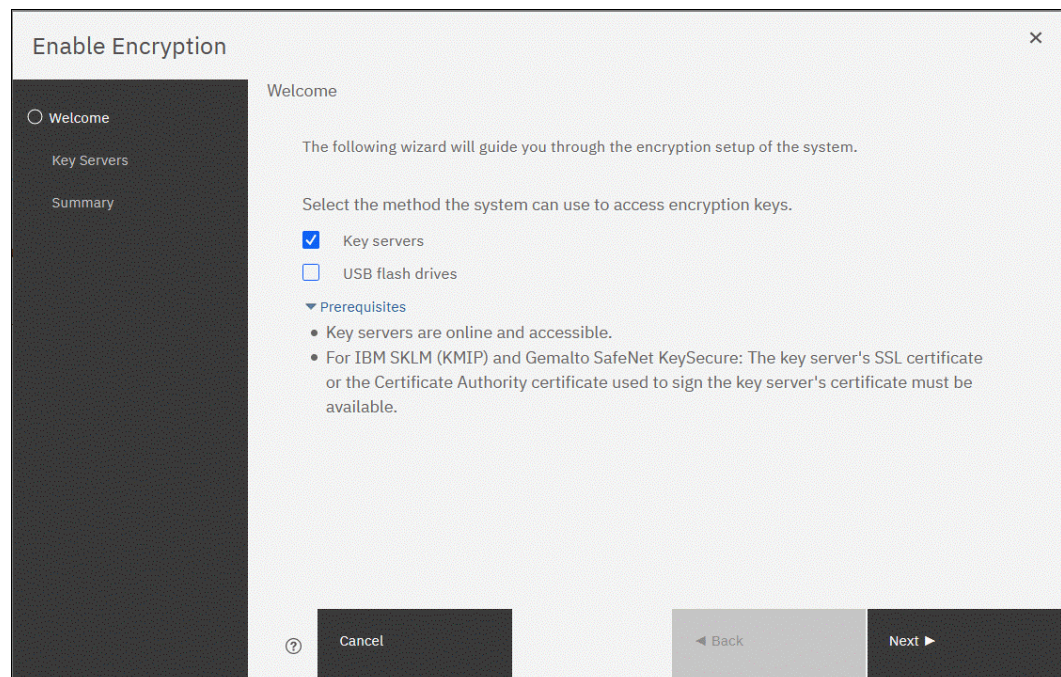

Figure 12-29 Selecting the key server as the only provider in the Enable Encryption wizard
2. In the Enable Encryption wizard **Welcome** tab, select **Key servers** and click **Next**, as shown in Figure 12-29.